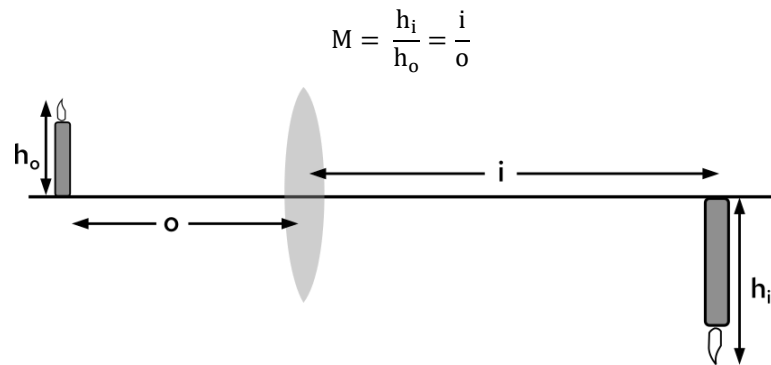

Figure 4. A magnified image using a converging lens.
We use the magnification equation to relate the height of the image,  $h_i$ , to the height of the object,  $h_o$ . Using similar triangles, we can also relate magnification to image and object distances (Fig. 4).
- Explain the result geometrically with similar triangles. **Hint:** Sketch the ray through the center of the lens in Fig. 4.